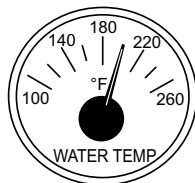

Figure 52. Coolant Temperature Gauge
8. The **coolant temperature gauge** (Figure 52) will indicate the coolant temperature. Under normal operating conditions the coolant temperature should be between 167°–194°F (75°–90°C) (**Green Zone**).